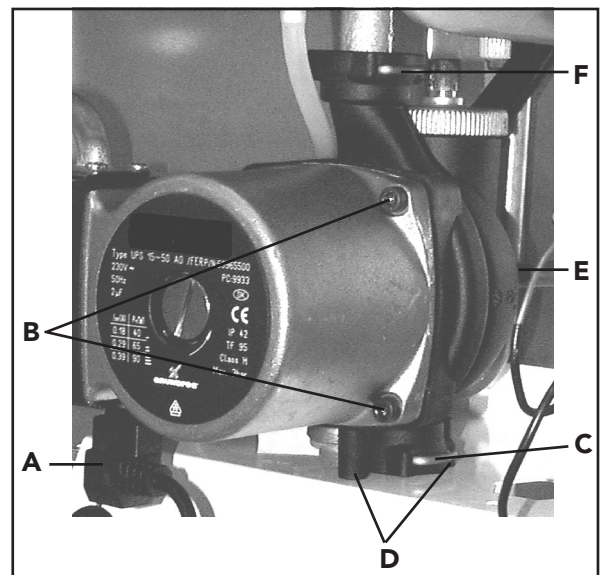

Fig. 29
**Pump** (fig. 29)
**Replacement of pump body** (fig. 29)